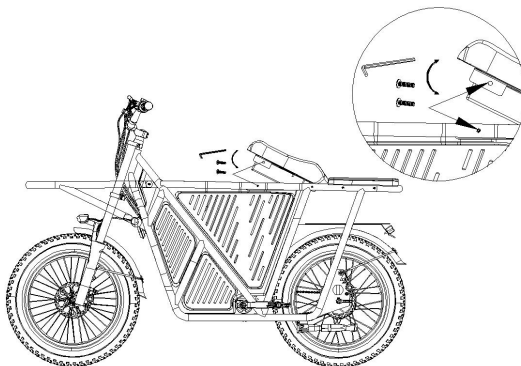

Figure 2-1-5
2.5. Open and reset the seat, loosen the first two screws to open it. Align the reset position with the left and right side holes of the frame. Tighten the M6 screws with a No. 5 Allen wrench (Figure 2-1-5).